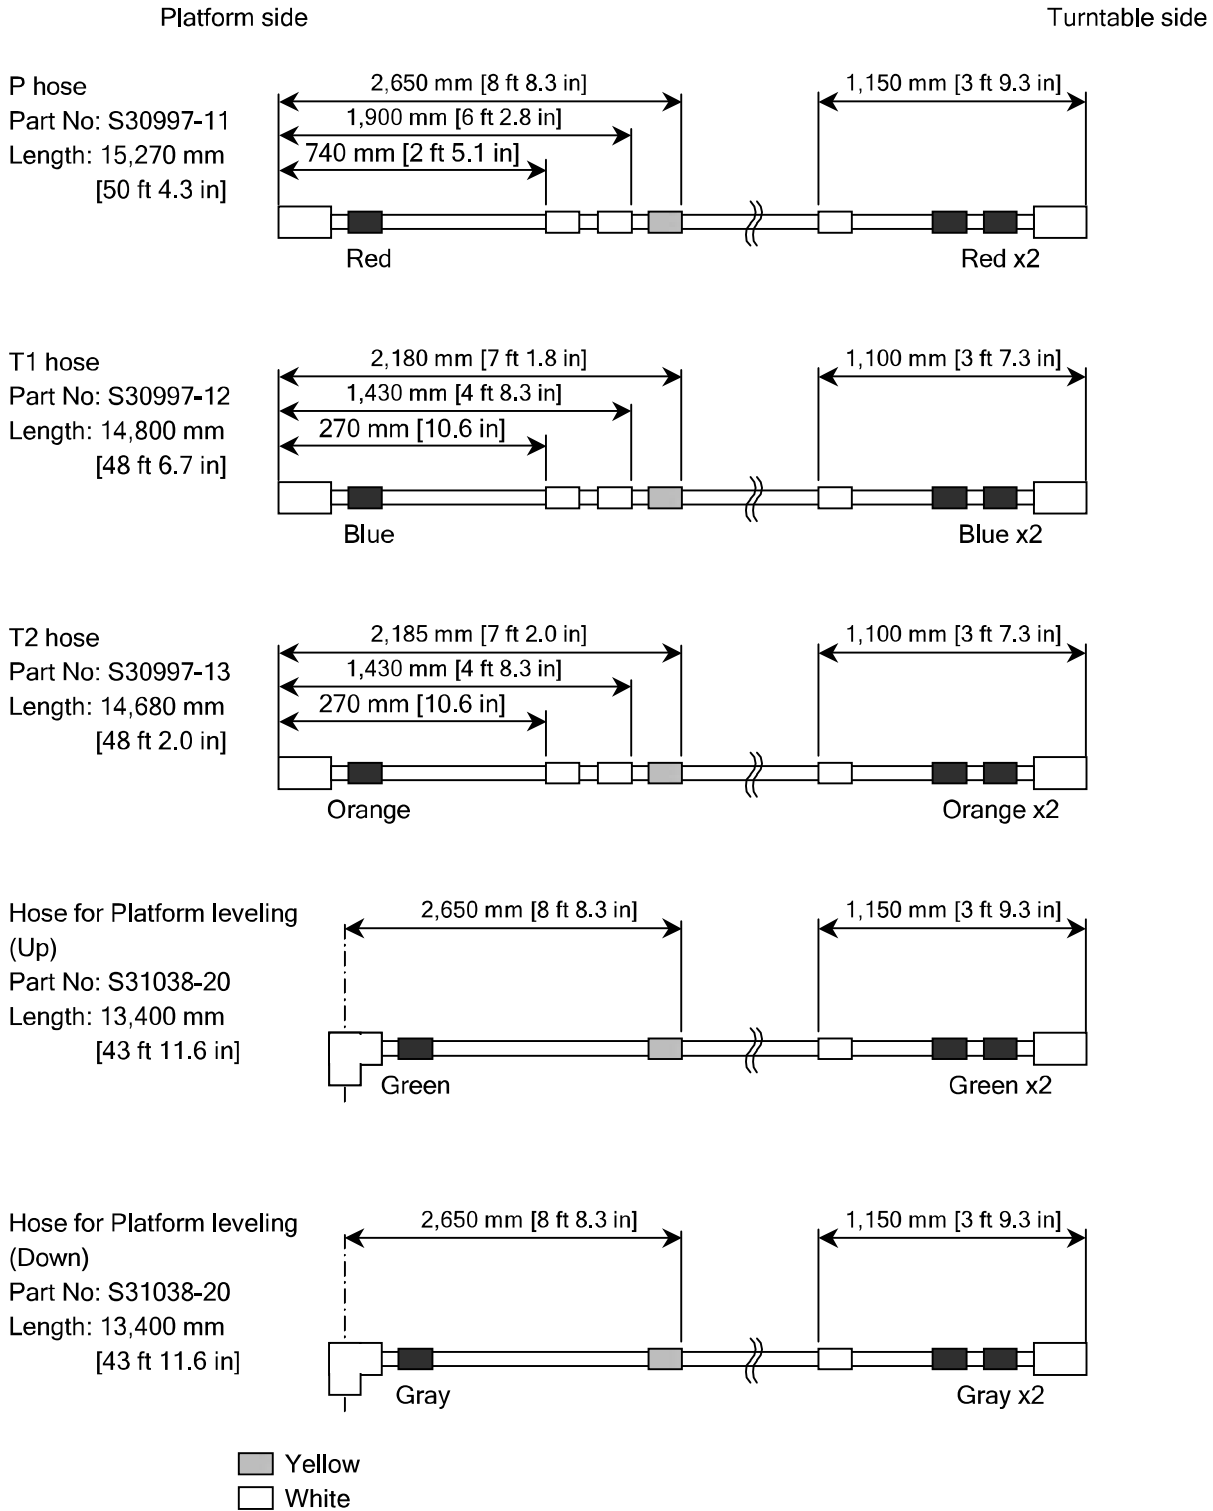
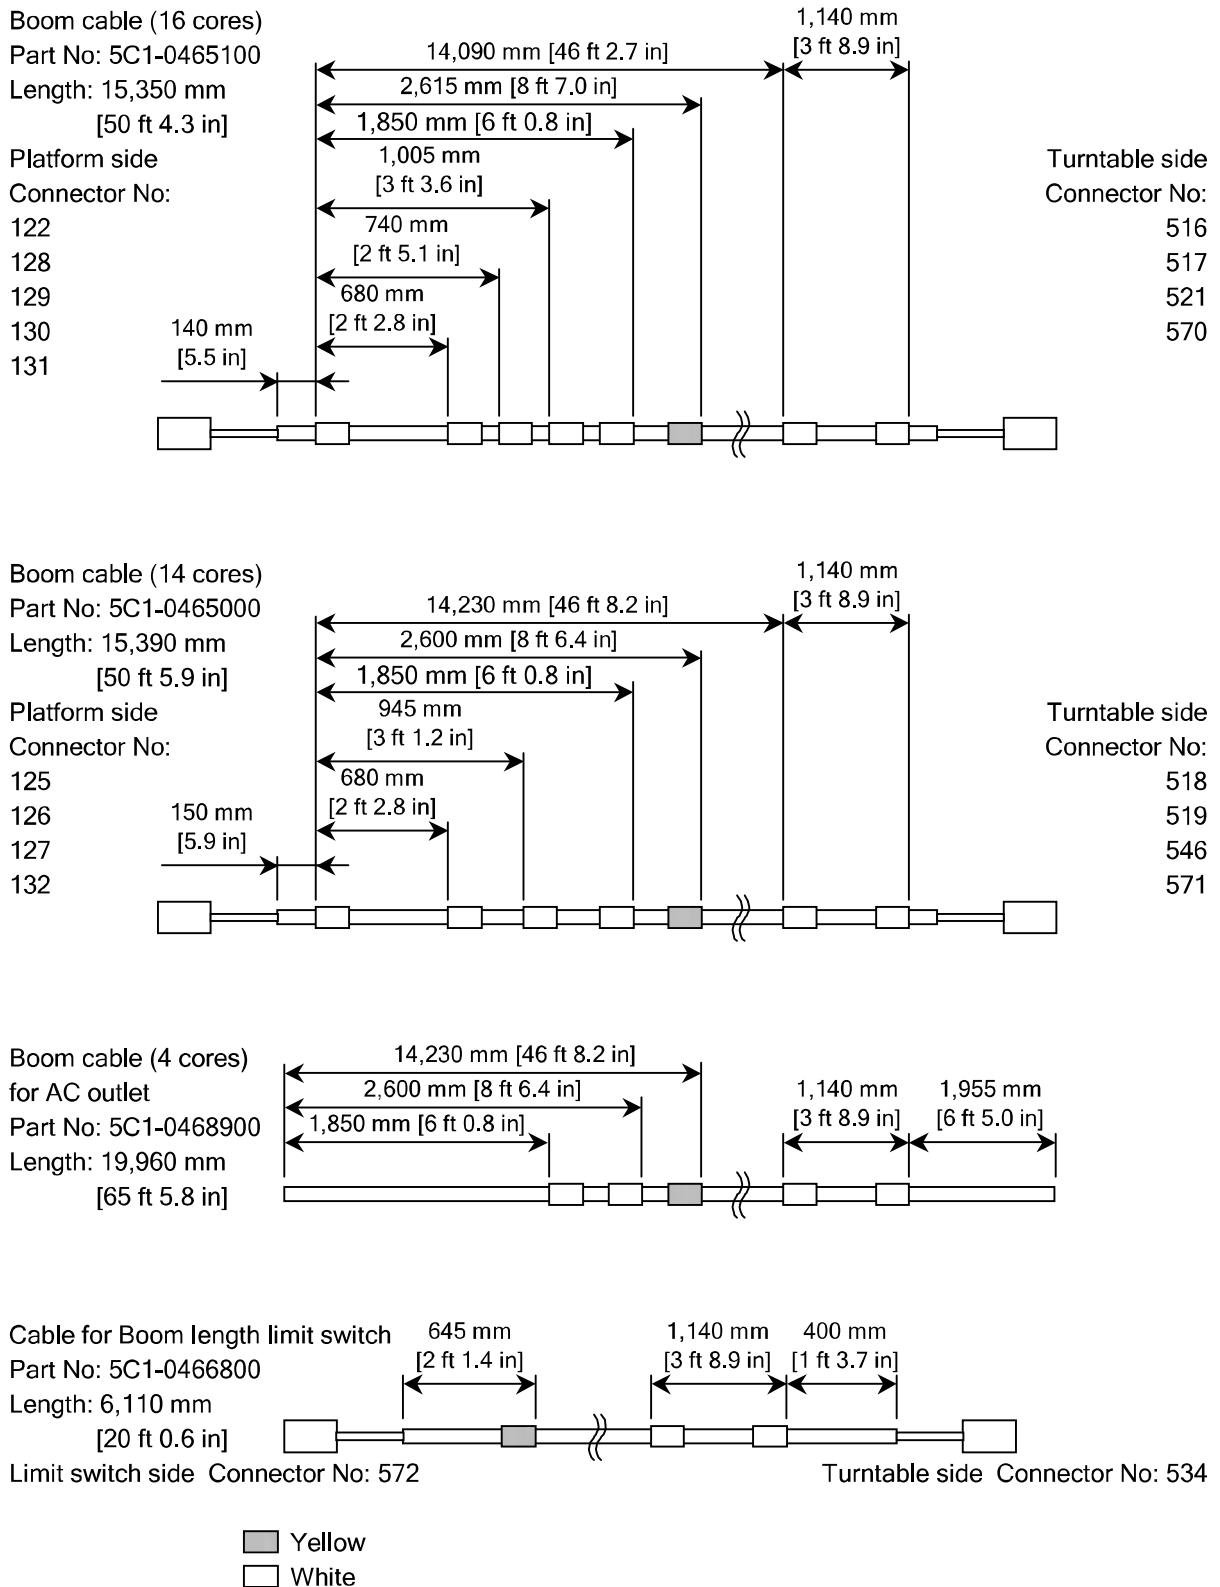

Fig. 2-55
Fig. 2-56
1) When replacing the boom cables and/or hydraulic hoses with new one, put the designated colored vinyl tape on them to identify each cable/hose and their specific position as shown in Fig. 2-55 and Fig.2-56.